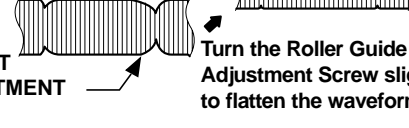

Fig. C-4-2
- 3) Height Adjustment Screw : Flatten the RF waveform. (Fig. C-4-2)